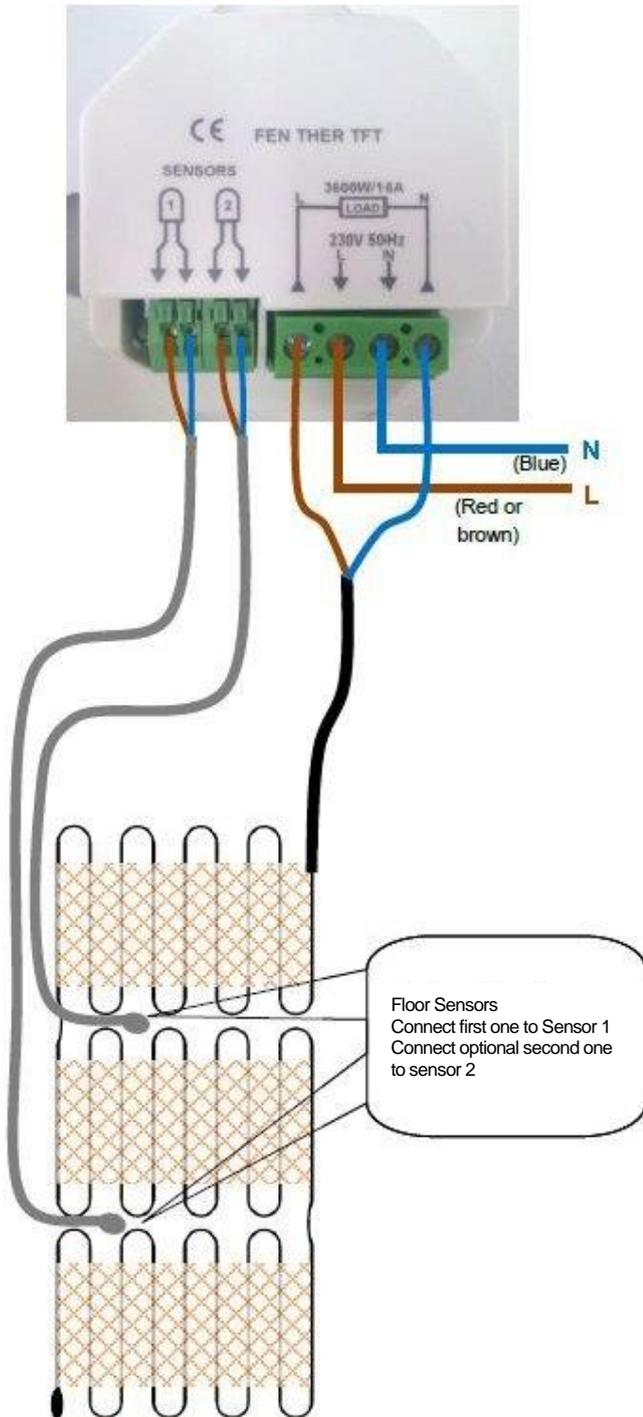
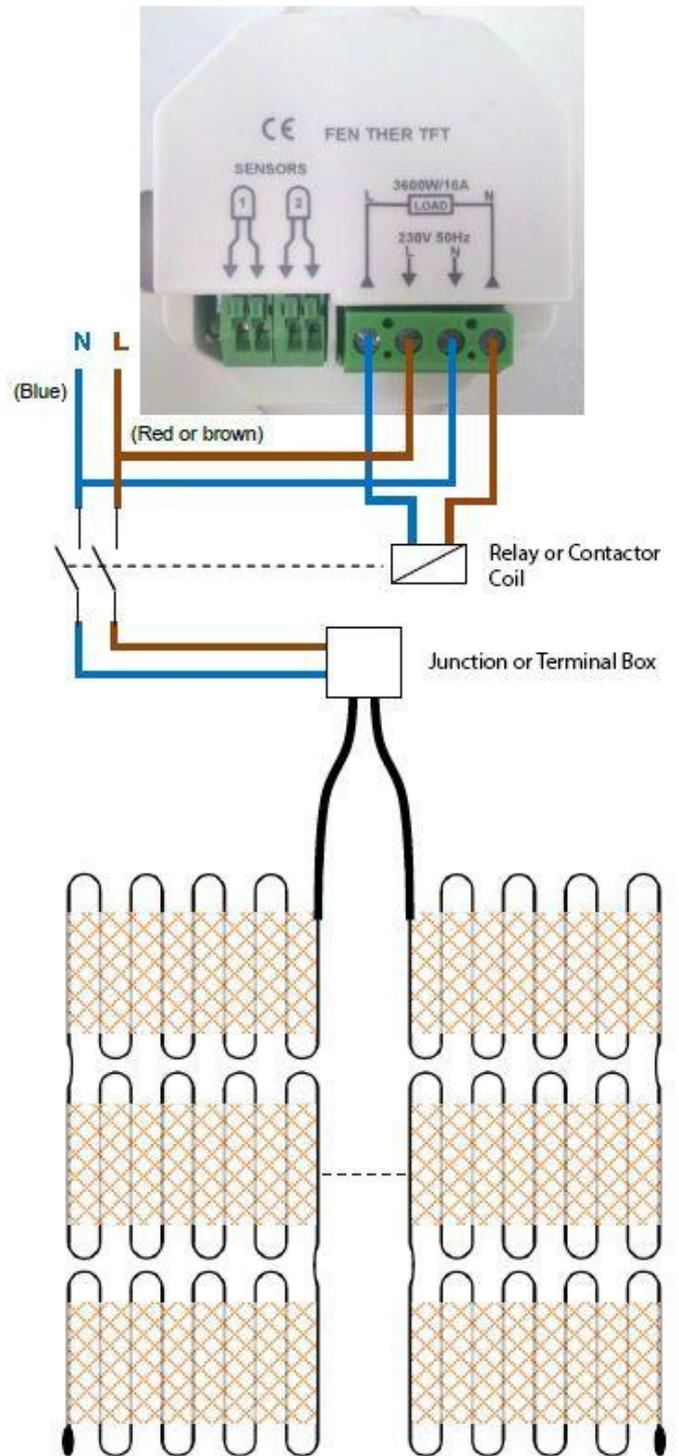

Fig 1
Fig 2
**Please Note:-** You can drive directly up to 3,600W (16A) with this thermostat (see fig 1), If the total load is above 3,600W (16A) you must install an external relay or contactor to take the load (see fig 2).